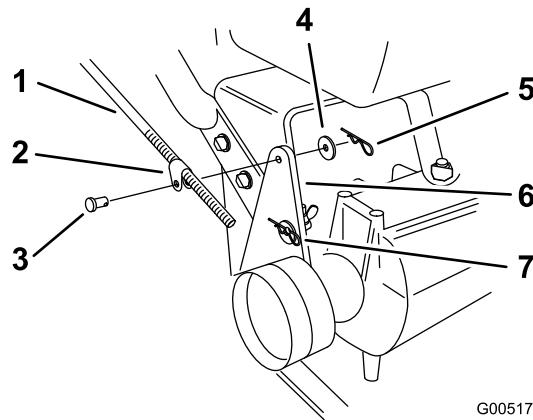

Figure 41
2. Check the operation. If adjustment is required, remove hairpin cotter, washer and clevis pin securing control rod fitting to idler bracket (Figure 41).